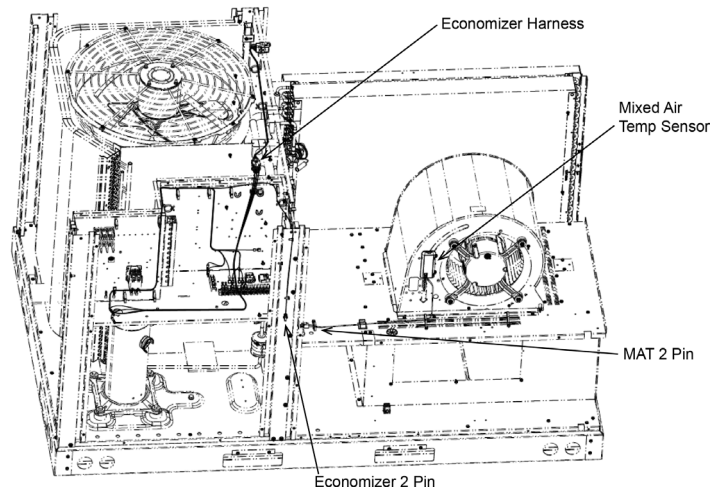

FIGURE 13 - INDOOR FAN SECTION / MIXED AIR SENSOR 3-6 TON
3. Remove the indoor fan compartment cover and locate the factory installed mixed air temperature harness. This harness consists of two black wires and a two pin connector. On some gas models, this harness may not be factory installed. If your unit does not have this harness, skip to step 4. Once the harness is located, install the mixed air temperature sensor provided with the kit on the side of the blower housing. Connect the mixed air temperature sensor to the factory harness using the adapter harness provided with the economizer kit (see Figure 13). Reinstall the indoor fan compartment cover. Skip to step 5.